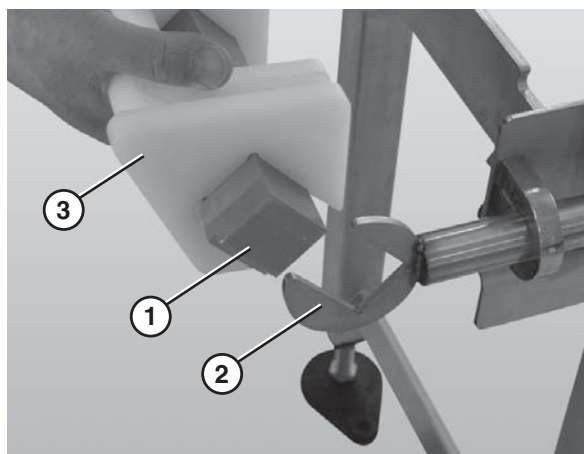

Figure 66
4. After all tracking pucks (**Figure 66, item 3**) are installed, slide the nose bar drive or transfer post (**Figure 66, item 1**) into the nose bar drive weldment or idler hands (**Figure 66, item 2**).